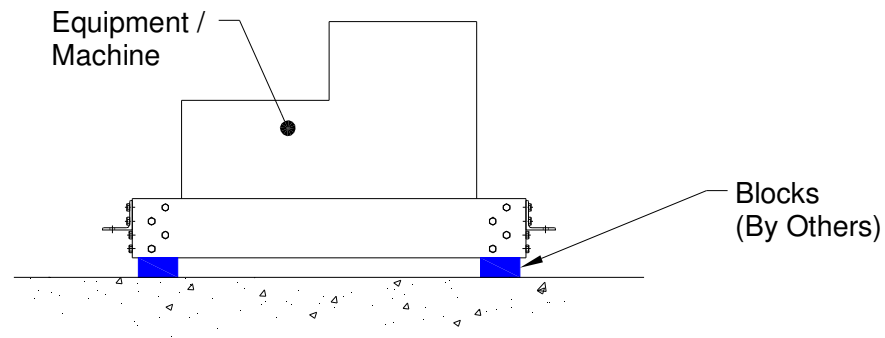

Figure 5
- 7) The frame should now be lifted using a minimum of four hydraulic jacks (more are required for large sectional frames) positioned under each frame bracket and intermediate positions if required. The jacks must be raised simultaneously to ensure that the frame remains as level as possible during the lift. Once clear of the floor the polythene sheeting must be removed and the frame lifted to a height so that the selected isolators can be positioned under the supporting brackets. Wood or steel blocks correctly sized to fit the gap under the frame must then be positioned evenly around the frame to provide a level and solid support (See Figure 5). Once this has been achieved the jacks can be removed.